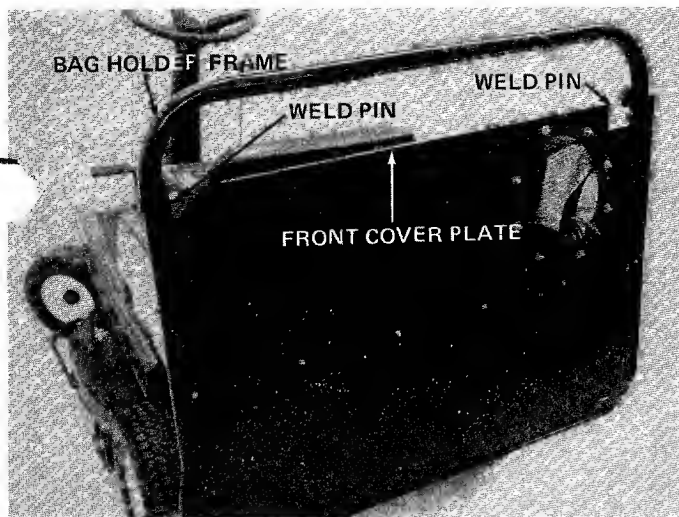

FIGURE 13
14. Hook the front cover plate assembly over weld pins located on bag holder frame. See figure 13.